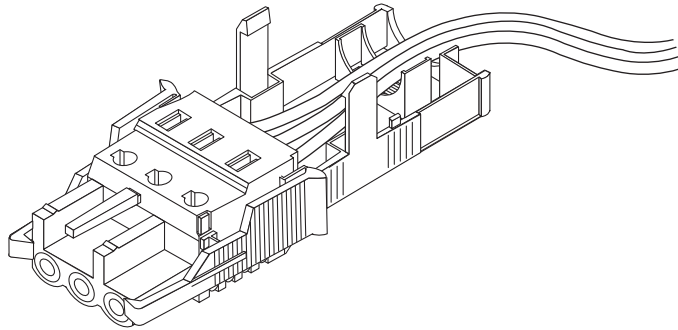

FIGURE 3-6 Routing the Wires Out of the Strain Relief Housing
2. **Route the three wires coming from the DC power source through the opening at the end of the bottom portion of the strain relief housing (see FIGURE 3-6).**